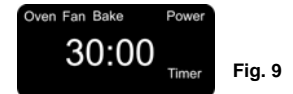

Fig. 9
- To select the desired time setting, press the "Increase/Decrease" button until the time is reached. (Fig. 9)